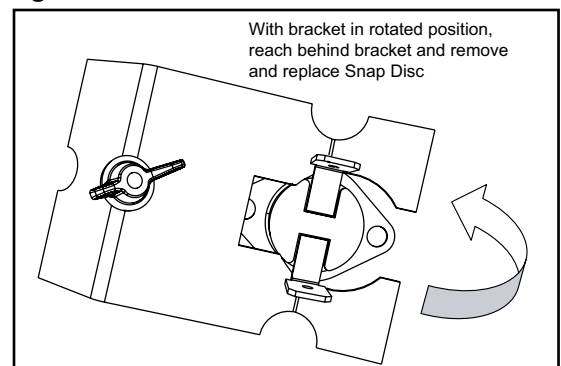

Figure 34.4
- k. When bracket is loose enough, rotate the bracket counterclockwise and away from feed tube. **Figure 34.4.**